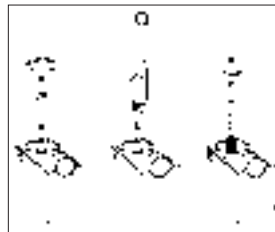

Fig. 2
*Laguna Utility Pumps 1, 2 and 3:* Remove Impeller and Ceramic Shaft Assembly - To remove Ceramic Shaft Assembly, insert the hooked end of the supplied tool into the hole near the bottom of the unit, draw entire assembly up and out. (Fig. 2)